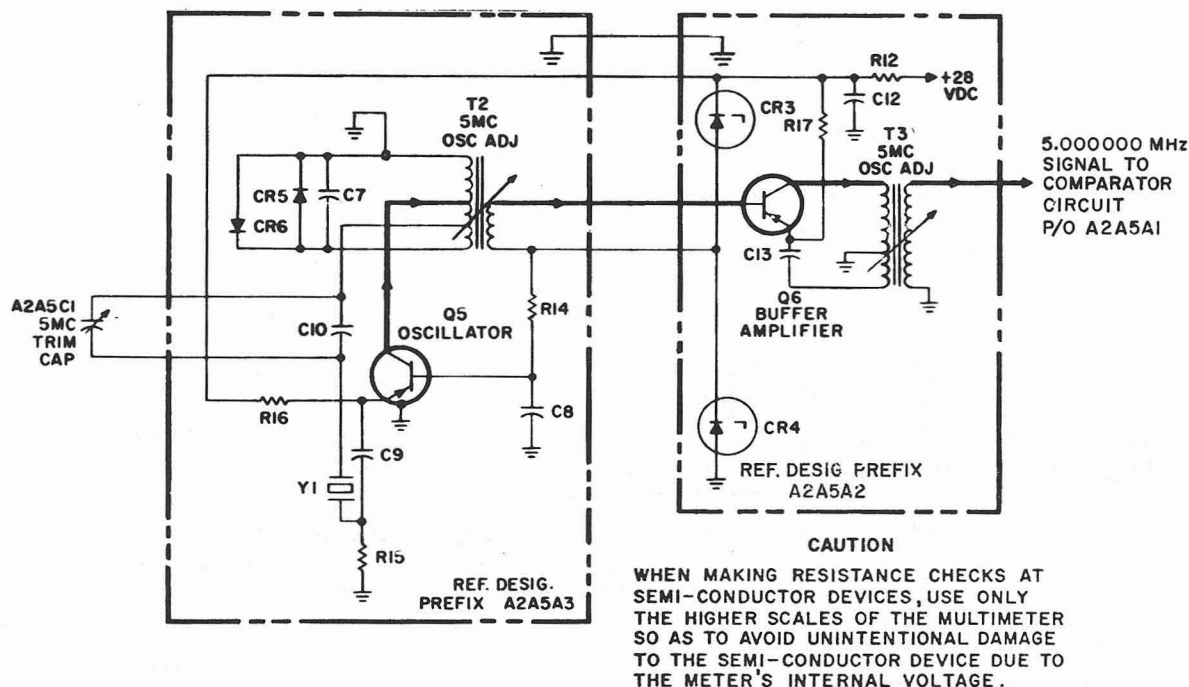

Figure 3-27. 5 MC Frequency Standard, Simplified Schematic Diagram
y. 5 MC FREQUENCY STANDARD. - The 5 mc frequency standard A2A5A3 and portion of A2A5A2 (figure 3-27) consist of oscillator Q5 and buffer amplifier Q6. These circuits, which form a part of frequency standard electronic assembly A2A5, provide an accurate 5.000000-MHz signal to be used as a standard throughout the R-1051D/URR. The 5 mc frequency standard circuit is used during all modes of operation. Assembly A2A5A2 is housed in an oven, the temperature of which is maintained at a constant 85°C by the oven control circuit. The following paragraphs describe the operation of the circuits in detail.